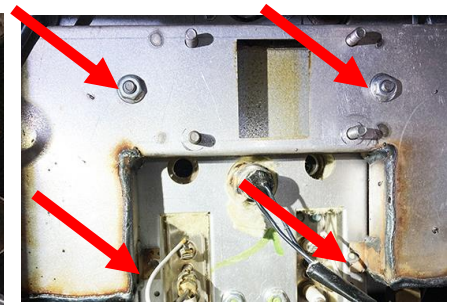

Figure 73
73. Reattach the plenum with the two outer nuts and lower tab screws (see Figure 73).